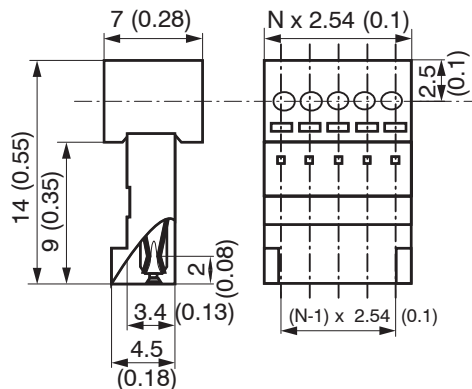
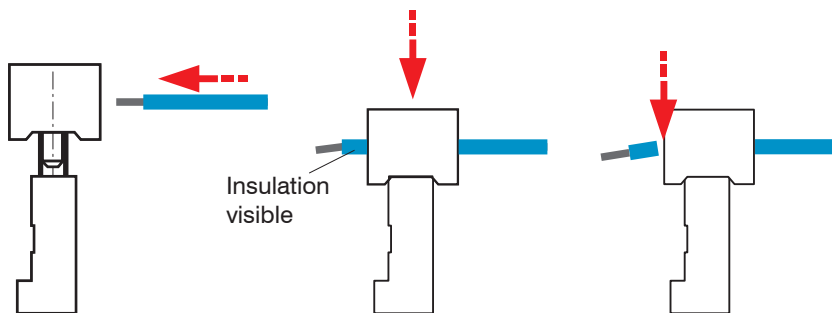

Fig. 3 After cabling
Fig. 4 Installation sequence strands with insulation displacement connector
Do not strip off the strands, see Fig. 4.
- i The insulation displacement connector, see Fig. 2, see Fig. 3, see Fig. 4, may be pressed only once. A replacement connector kit is included. The insulation displacement connection must be made at the insulation.